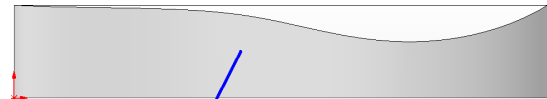

**Fig. 16**
Step 1. Click **Right Plane**  in the Feature Manager and click **Sketch**  on the context toolbar, **Fig. 16**.